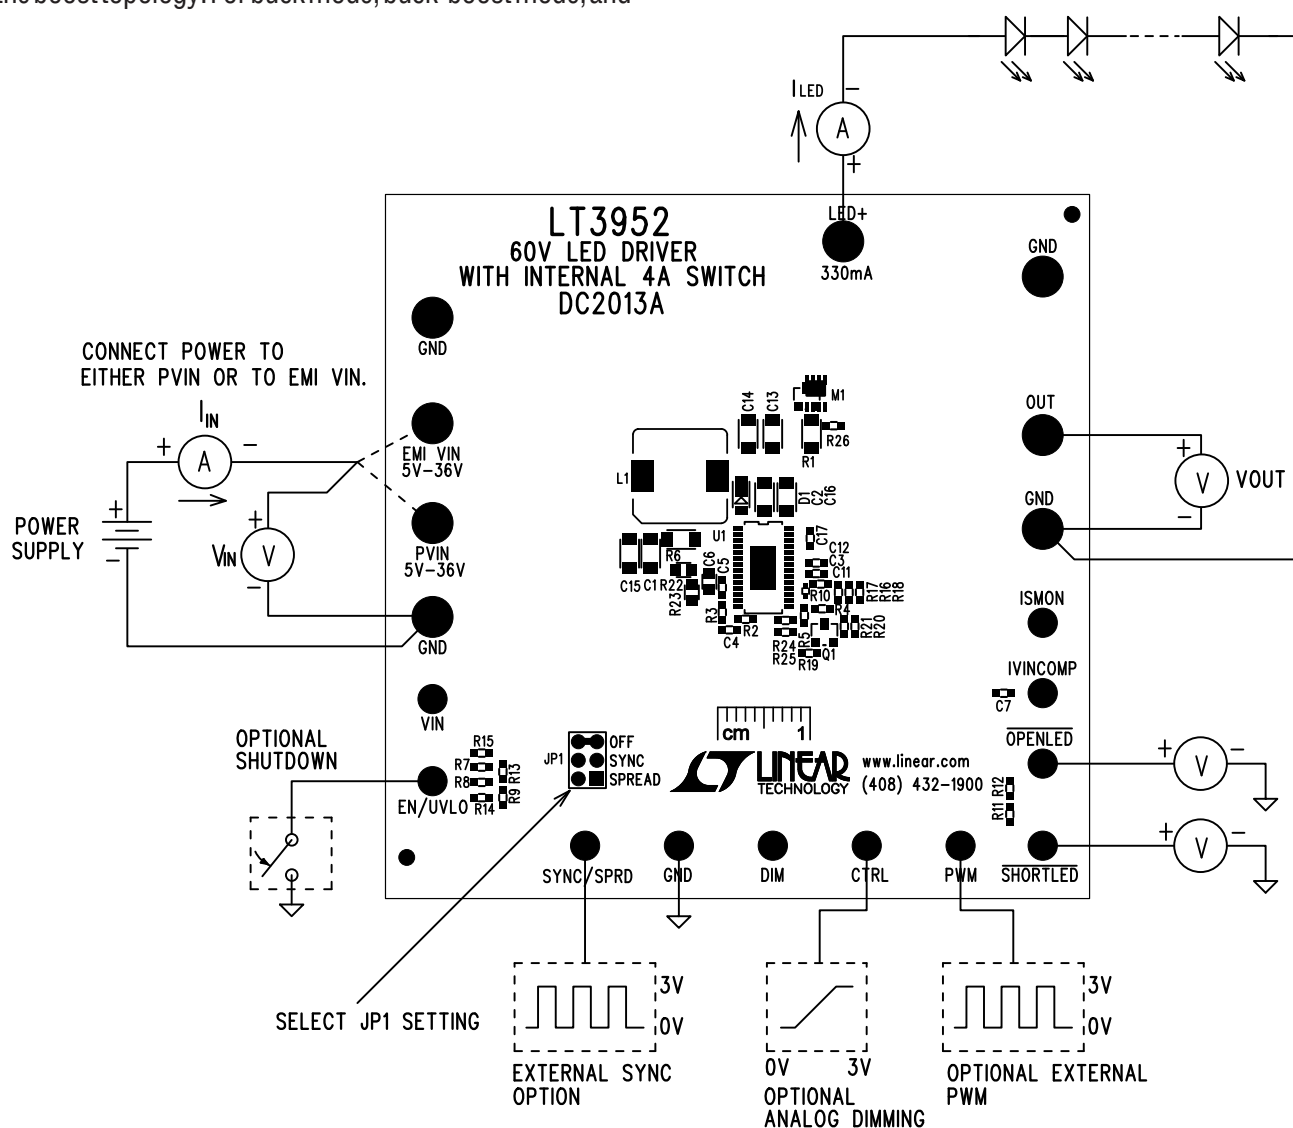

Figure 1. Test Procedure Setup Drawing for DC2013A
1. Connect a string of LEDs that will run with forward voltage less than or equal to 50V (at 330mA), but greater than  $PV_{IN}$ , to the LED+ and GND terminals on the PCB as shown in Figure 1.